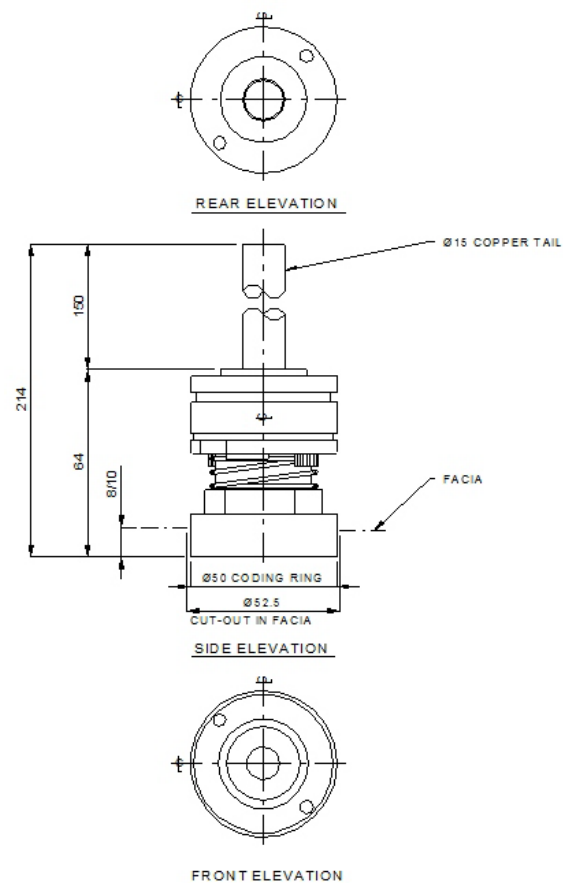

Figure 5-2 Rigid and Retractable Pendant Installation – Zeus Terminal
- Ensure that an 'o' ring seal is correctly located within each flexible hose assembly NIST fitting as illustrated in figure 5.2.